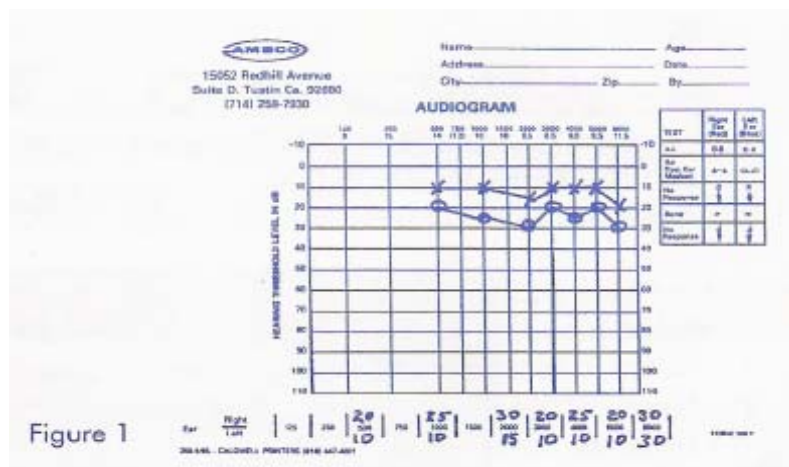

Figure 1
- Using a common pad, Figure 1, you may record the results as in the following example.
- Plot all of the results accordingly as shown in the above example, Figure 1.